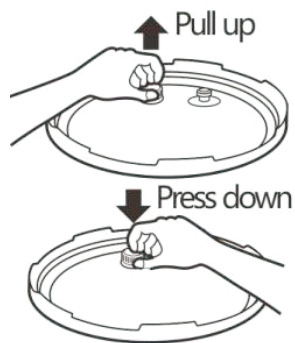

Figure 17
2. Use a non-abrasive sponge or damp wash cloth to clean the outer body (13). NEVER immerse the outer body (13) in any liquids or pour liquid into it.
3. Remove the Condensation Cup (12) and rinse it thoroughly and let dry. Clean the Inner Main Body (13) and Upper Ring (9) with a damp sponge or wash cloth.
4. Remove the pressure limiting valve (3) by gripping and firmly pulling upwards. Rinse with warm water and dry.
5. Clean the Lid (2) with warm soapy water, including the Rubber Seal Ring (18), Filter (17), Vent, Float Valve (4) and let dry thoroughly.
6. On the underside of the lid below the pressure limiting valve (3), is a small metal filter (17) which can be easily removed to clean (Figure 17).
8. Wash the Inner Pot (6), Wire Rack Lid with a non-abrasive sponge and allow to air dry or use a towel. It is not recommended to use any type of scouring pad that can scratch the non-stick surface of the Inner Pot (6).
To clean the filter (17), remove it by pulling vertically. To re-attach, simply line up the filter (17) and press down to secure the filter (Figure 17).